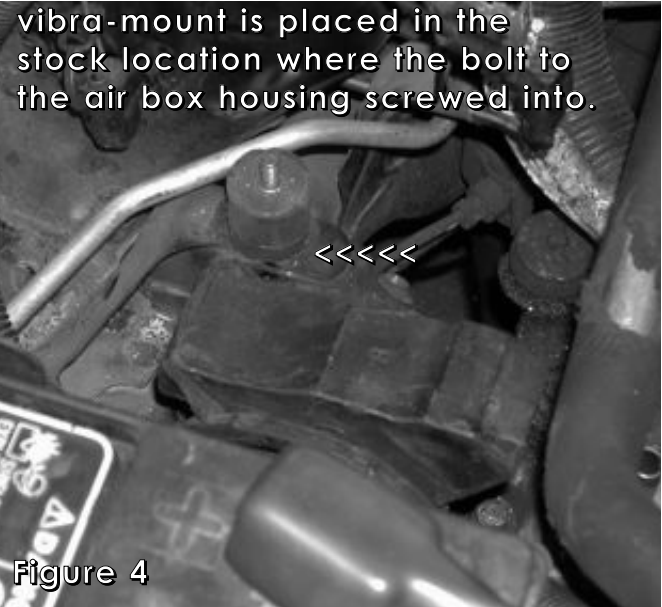

Figure 4
- 5- Screw the vibra-mount in place in the threaded hole where the stock air box was as seen in figure 4.